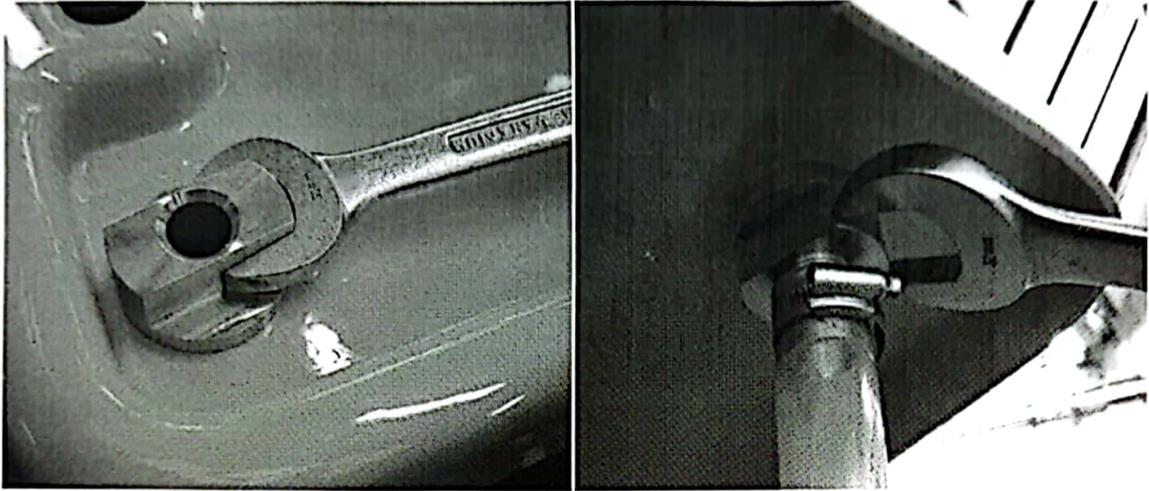

Figure 5 Fit the Header Tank Overflow Pipe Connector to the Hydraulic Bench Top
4. Fit the two parts of the Header Tank connection into one of the holes of the Hydraulic Bench - preferably nearest the flow control valve of the Hydraulic Bench. Connect the short piece of pipe (supplied) to the lowest part. See Figure 5. Assemble and connect the Header Tank to the connection as shown in Figures 5 and 6. Its overflow pipe is also the support for the Header Tank.